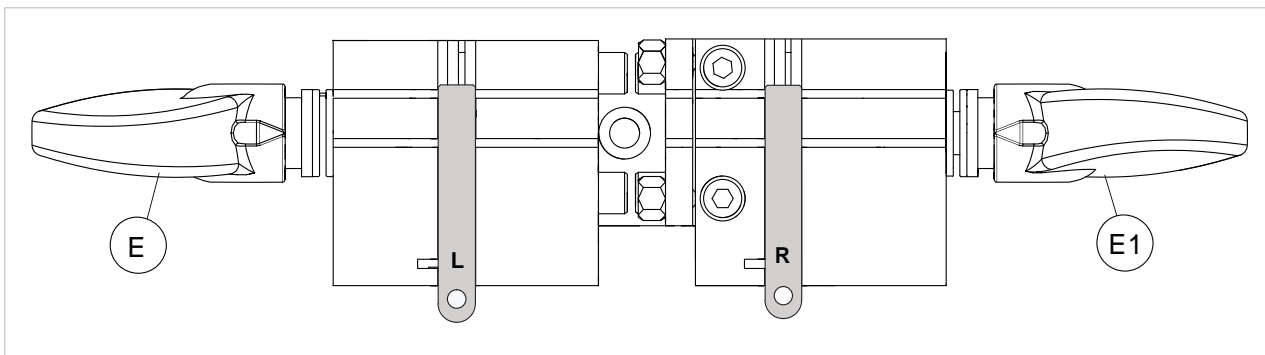

Fig. 14
- 1) Turn off the motor with switch (Q).
- 2) Fit the “L” calibration bar into the left-hand clamp (tracer side) and lock with knob (E) (Fig. 14).
- 4) Lock nuts (H2) and (O).
- 5) Slightly loosen the grub screw (M) locking the tracer. Pull down the tracer point approx. 4 mm.
- 6) Use lever (J) to lower the vertical carriage and take the tracer and cutter into contact with the two bars.
- 7) Tighten the tracer grub screw (M).